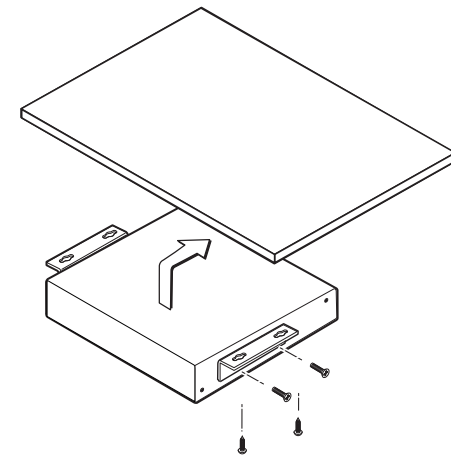

Figure 2-7 — Under-desk mounting
- Using the four wood screws provided, attach the brackets under the mounting surface (see figure 2-7).